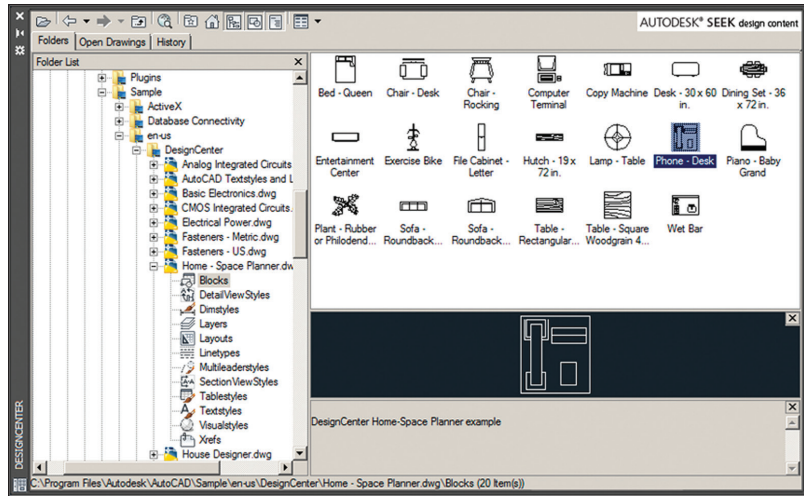

FIGURE 9.14 Inserting content from Autodesk DesignCenter into a drawing
2. Navigate to the folder shown at the bottom of Figure 9.14 and expand the Home - Space Planner.dwg sample file.